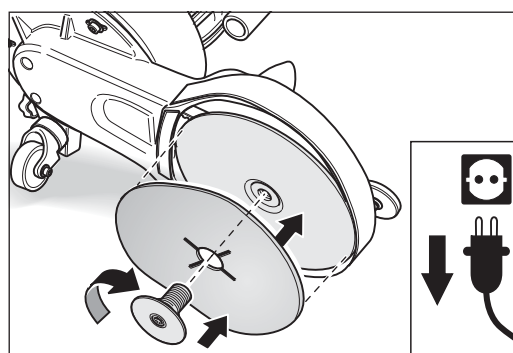

Fig. 50 Install the new sanding disc and then tighten the sandpaper tensioning screw firmly by hand.
- 5 Place a new sanding disc on the sanding disc wheel and insert the sandpaper tensioning screw into the sanding disc wheel. Make sure that the sanding disc is fastened in the best possible centered position on the sanding disc wheel (fig. 50).